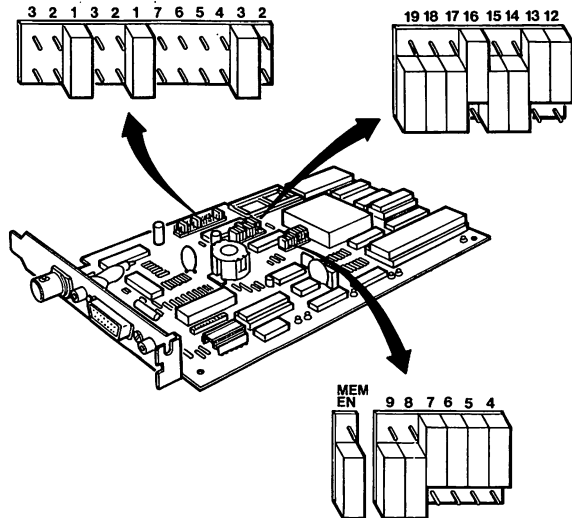

Figure 2-1. XC 24 Network Access Board
Check Fig. 2-1 to verify that the board you are installing is an XC 24 Network Access Board.
- If your board looks like Fig. 2-1, continue with the installation instructions below.
- If your board does not look like Fig. 2-1, you may be installing an XC 22 Network Access Unit. Compare your board to Fig. 2-1 on page 2-58 and continue with those instructions, if applicable.
1. Locate the jumpers on the XC 24 Network Access Board and ensure that they are positioned as shown in Fig. 2-1.